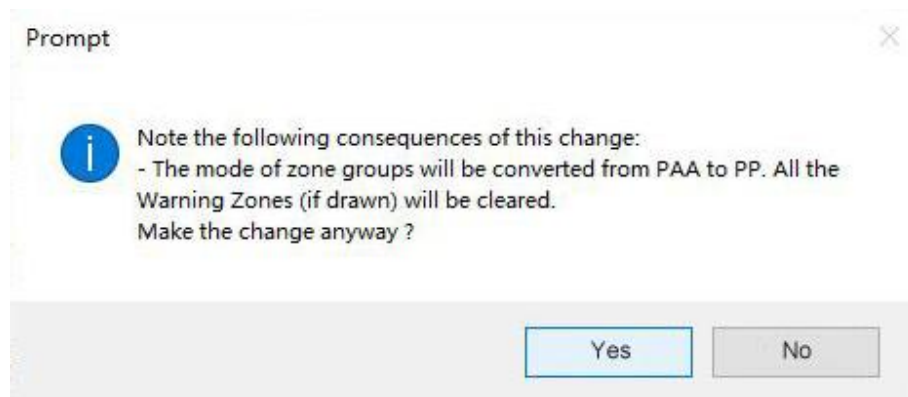

Fig.2.6.4.2 Work mode switching from PAA to PP
- When the work mode is about to switch from PP to PAA, a window as shown in Fig.2.6.4.3 will pop up. Click "Yes" to switch the work mode, and the following changes will occur:
- ① Clear the graphics drawn in Protection Zone 2 of all defense zone groups.
- ② The mode of the zone group in the monitoring case cut-off path is also switched to PP, and the thumbnail of each zone is simultaneously updated.